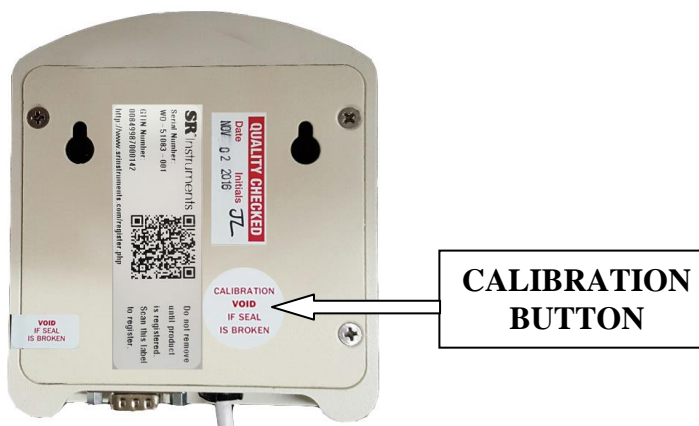
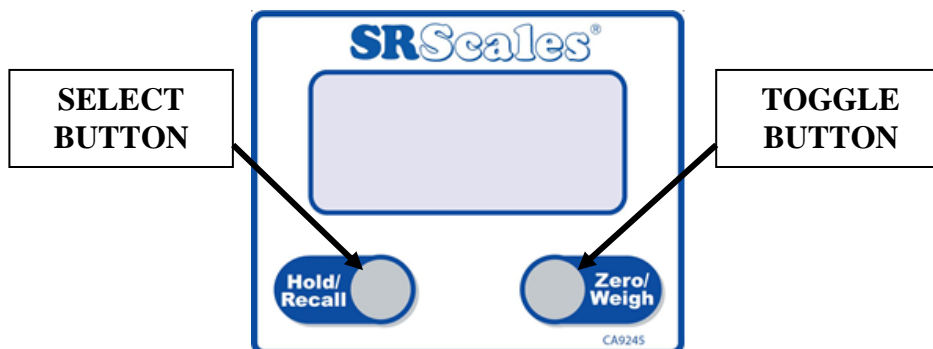

Figure 2: Calibration Button
Figure 3: Select and Toggle Buttons
To access all settings below, break the Calibration Seal. Press the calibration button (Figure 2) using the pointed-end of a pen or similar item. CAL mode is now active.
Refer to Figure 3. The Right Button allows you to toggle through the menus without saving any parameters. The Left Button permits a menu item to be selected or a parameter saved.
To enter the CAL mode, press the calibration button (Figure 2) using the pointed-end of a pen or similar item. Toggle through the menu with Right Button (Figure 3). Select or Save data with the Left Button (Figure 3).
- g) Press the calibration button (Figure 2) using the pointed-end of a pen or similar item.